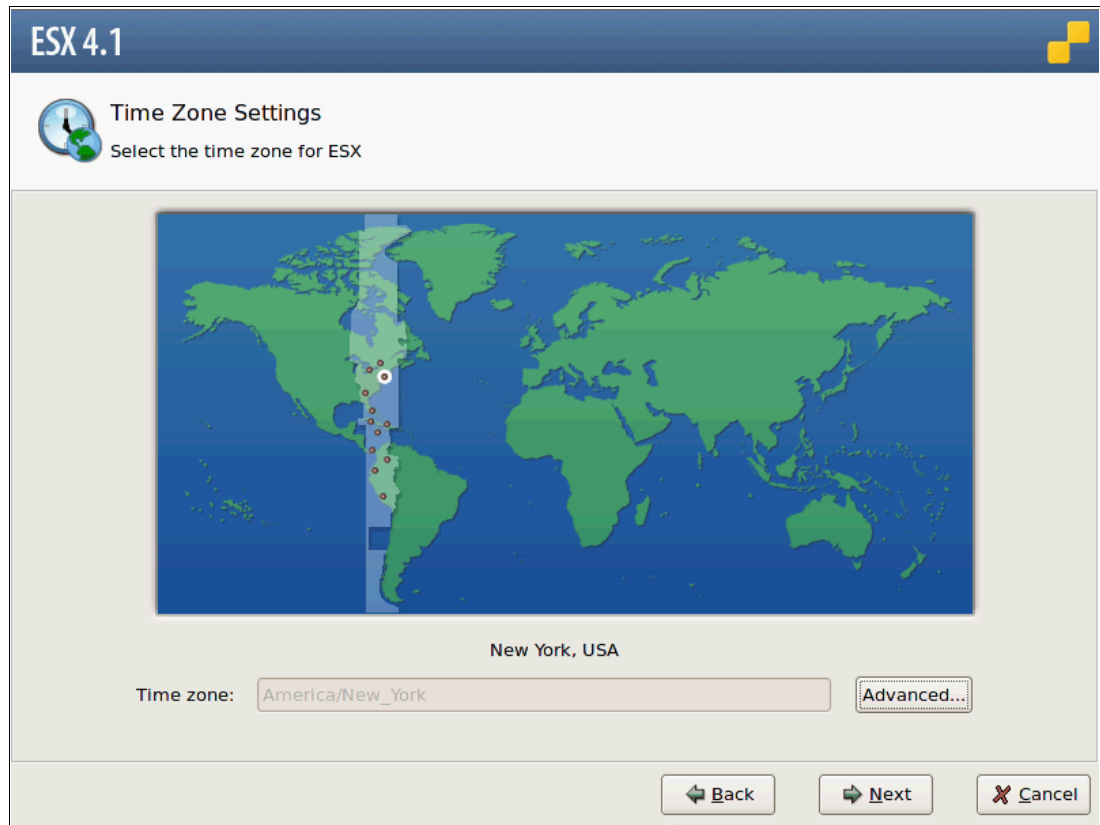

Figure 22-26 ESX Time Zone settings
15. In the Time Zone Settings window (Figure 22-26), select the appropriate time zone and click **Next**.